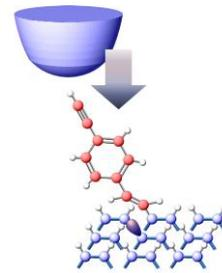
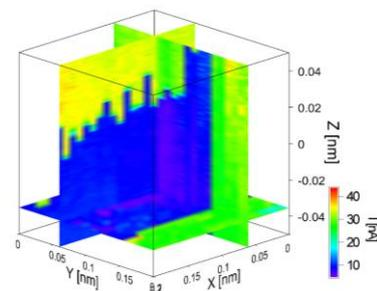

Fig.1 Schematic of measurement.
Fig.3 2D cross sections of the 3D measurement of conductance.
With the development of various techniques to fabricate single molecular junctions, tremendous effort has been devoted to elucidate the transport properties of single molecules. We have advanced the “STM point contact method”, which we previously developed, to realize three-dimensional analysis of the influence of molecular conformation on the carrier transport in a Si-based single molecular junction. STM tip and substrate surface made of a same n-type Si (001) wafer were used as electrodes. We used diethynylbenzene (DEB) molecule, whose triple bonds react covalently with Si electrodes. A single molecular junction was formed with a Si-STM tip approached toward an isolated DEB molecule adsorbed on a H-Si (001) substrate (Fig.1). After the molecular junction being formed, current flowing through a single molecular junction was measured with a fixed bias voltage while the STM tip, which was moved back and forth in the Z direction, was scanned two-dimensionally (X- and Y-directions), as the scheme is shown in Fig.2. The single molecular conductance of the DEB molecule modulated by the 3-D conformational change was visualized by mapping the measured current as a function of the STM tip position. Figure 3 shows a result. An abrupt change in conductance due to the conformational change of molecule caused by the STM tip movement in Z-direction is shown by the change in color between blue and yellow in Fig. 3 (X-Z plane). The switching position gradually changes with X-directional scan. The obtained results clearly demonstrate the high-degree usefulness of this technique. Details will be discussed at the conference.